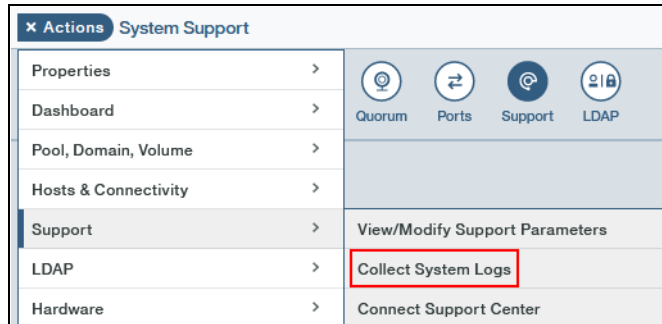

Figure 7-2 Collect System Logs option in the Actions Support menu
5. Click **Actions** → **Support** → **Collect System Logs** to display the System support section. See Figure 7-2.